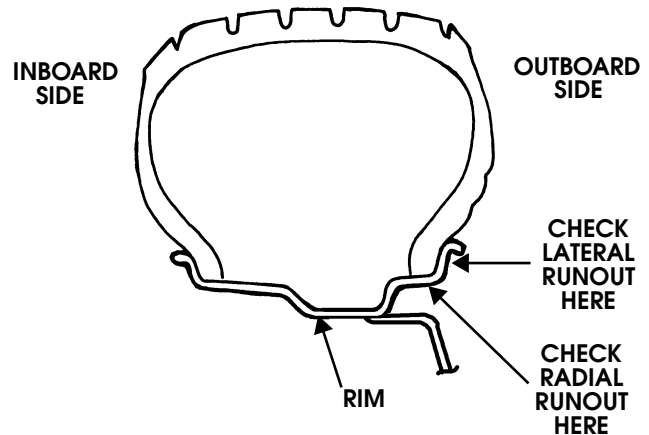

Figure 6-33: Wheel Runout Inspection Points
5. Rotate the assembly one more complete turn and record the indicator reading (Figure 6-33).